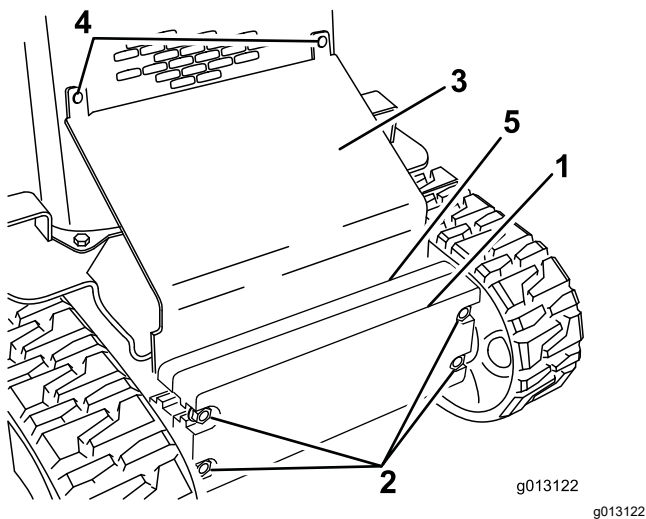

Figure 29
2. Loosen the bolts securing the weights (Figure 29).
3. Remove the carriage bolts and nuts securing the sloped plate (Figure 29).
10. Slide the sloped plate between the frame and the weights; secure it to the front screen grill using the carriage bolts and nuts removed previously (Figure 29).
11. Tighten the bolts securing the front weights (Figure 29).